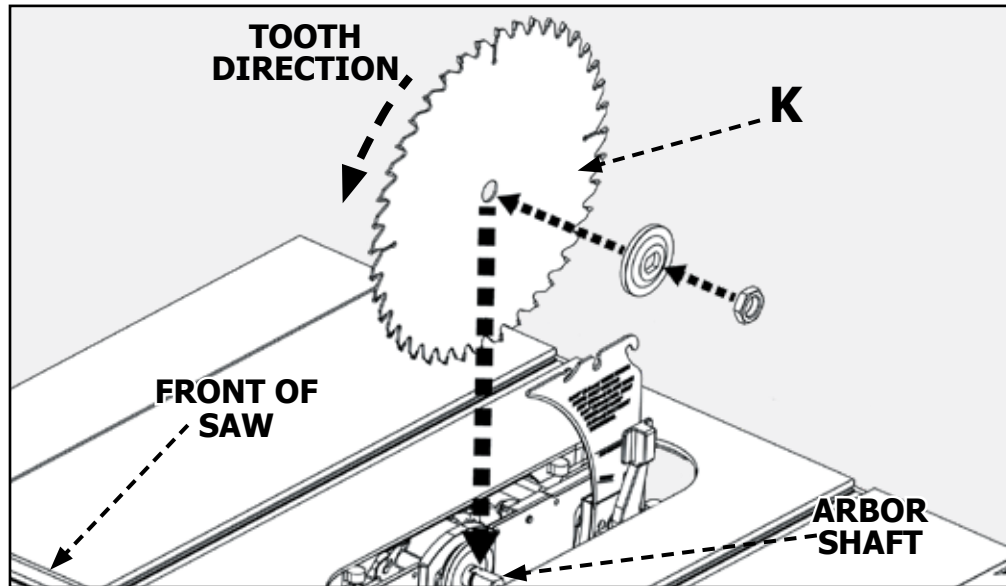

FIGURE 13
Place blade (K) on the arbor shaft with the teeth on the blade pointing toward the front of the saw. Place flanged washer on the shaft with the large side of the washer against the blade, then secure blade assembly with nut. See Figure. 13.